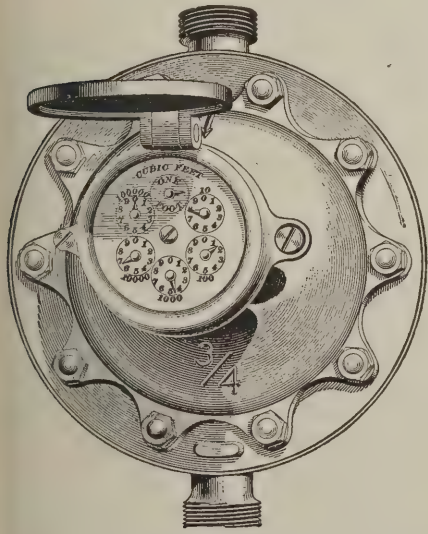

Fig. 3—Ordinary type of water meter
**The Water Meter.**—Fig. 3 shows the ordinary arrangement of a water meter. The water meter is read in a manner similar to a gas meter. The figure taken is always that one which the pointer has just passed, not the one which it is approaching. The figure indicated upon the dial marked 10 is first put down; that is in the units place. To the left of it put down the figure indicated upon the dial marked 100; to the left of that the figure under 1,000 and so on. Thus, dials in Fig. 3 indicate 6,417 cubic feet. The small dial is not taken into consideration as it only denotes fractions